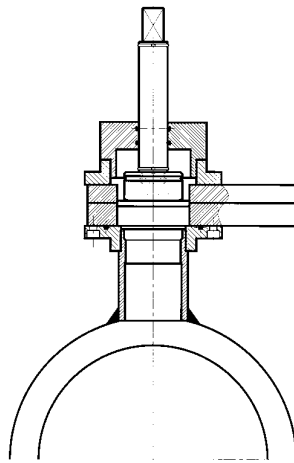

Figure 43
- Assembly the plug installation tool (with the plug on it) over the sandwich valve. See *Figure 43*.